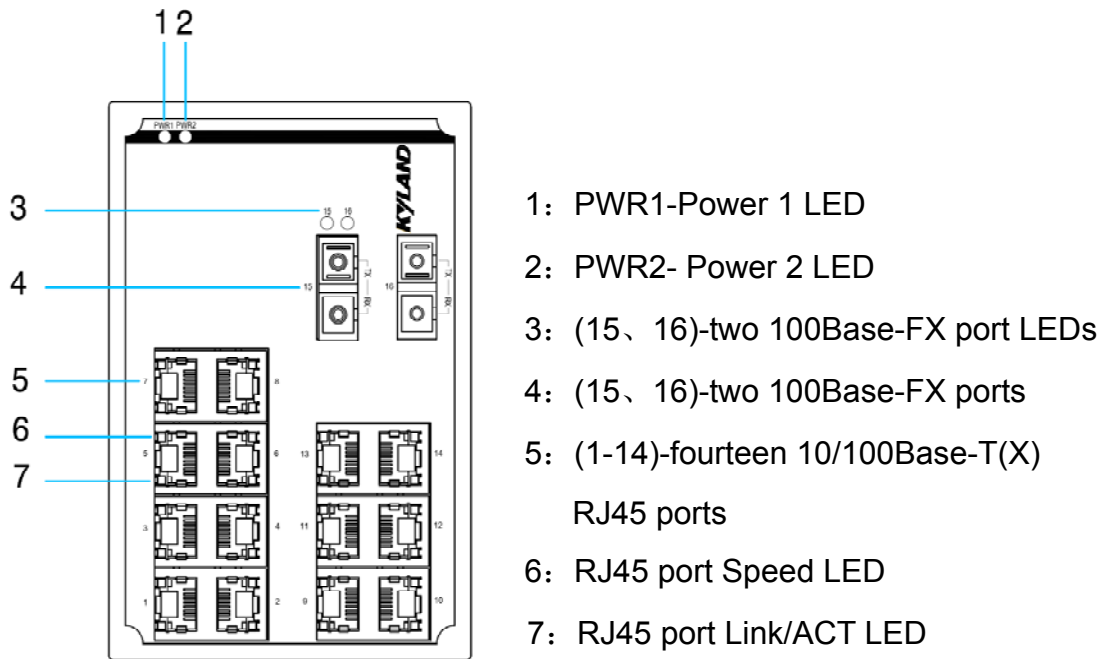

Figure 1 Front Panel 1
- KIEN3016A-2S/M-14T front panel is shown in Figure 1 below